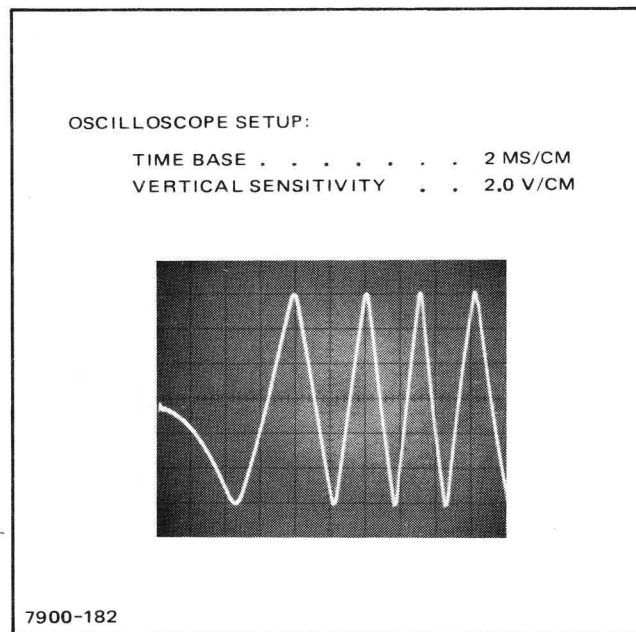

Figure 5-5. Encoder Gain Adjustment Waveform
- (1) Adjust the A GAIN variable resistor on encoder assembly A12 for $12 \pm 0.5V$ peak-to-peak output. (See figure 5-5.)
- (2) Adjust the A BAL variable resistor on encoder assembly A12 for an equal swing (± 0.5 volts) above and below 0 volts. (See waveform in figure 5-5.)